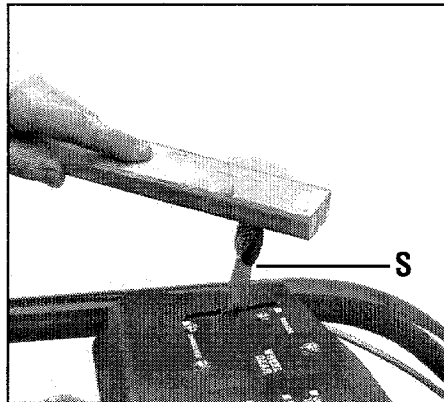

Figure 2-15: Attach wheel gear lever.
1. Route the wheel gear cable up the left-side handlebar and insert the lever (S, Figure 2-15) up through the slot in the control panel that is labeled "WHEEL GEAR."
4. Place the wheel gear lever knob on the end of the lever and use a board to tap the knob down until it seats firmly on the lever (see Figure 2-15).